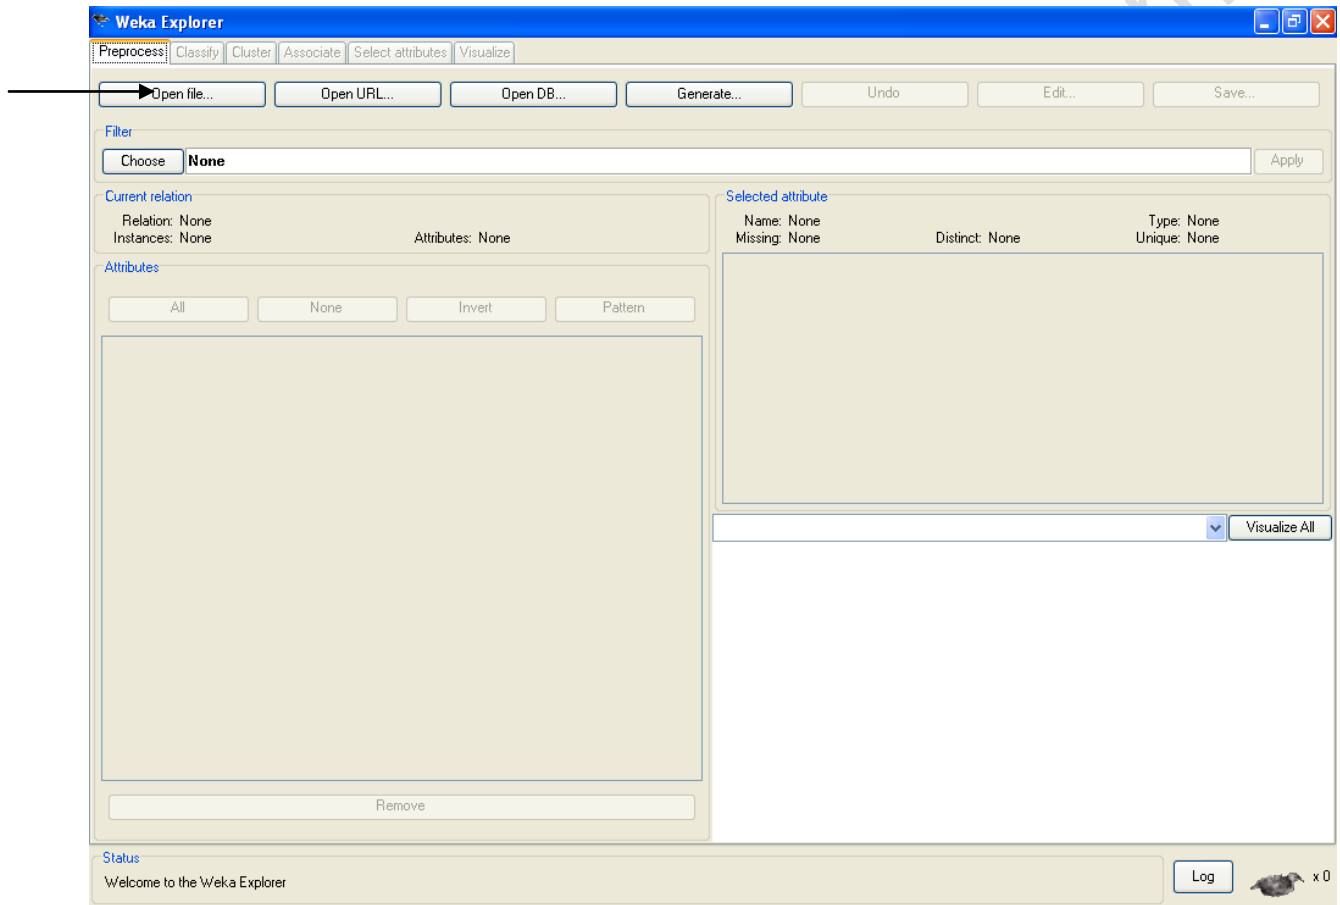

Figure-3
3. Now open file by choosing the “open file” button as shown in the above figure-3.